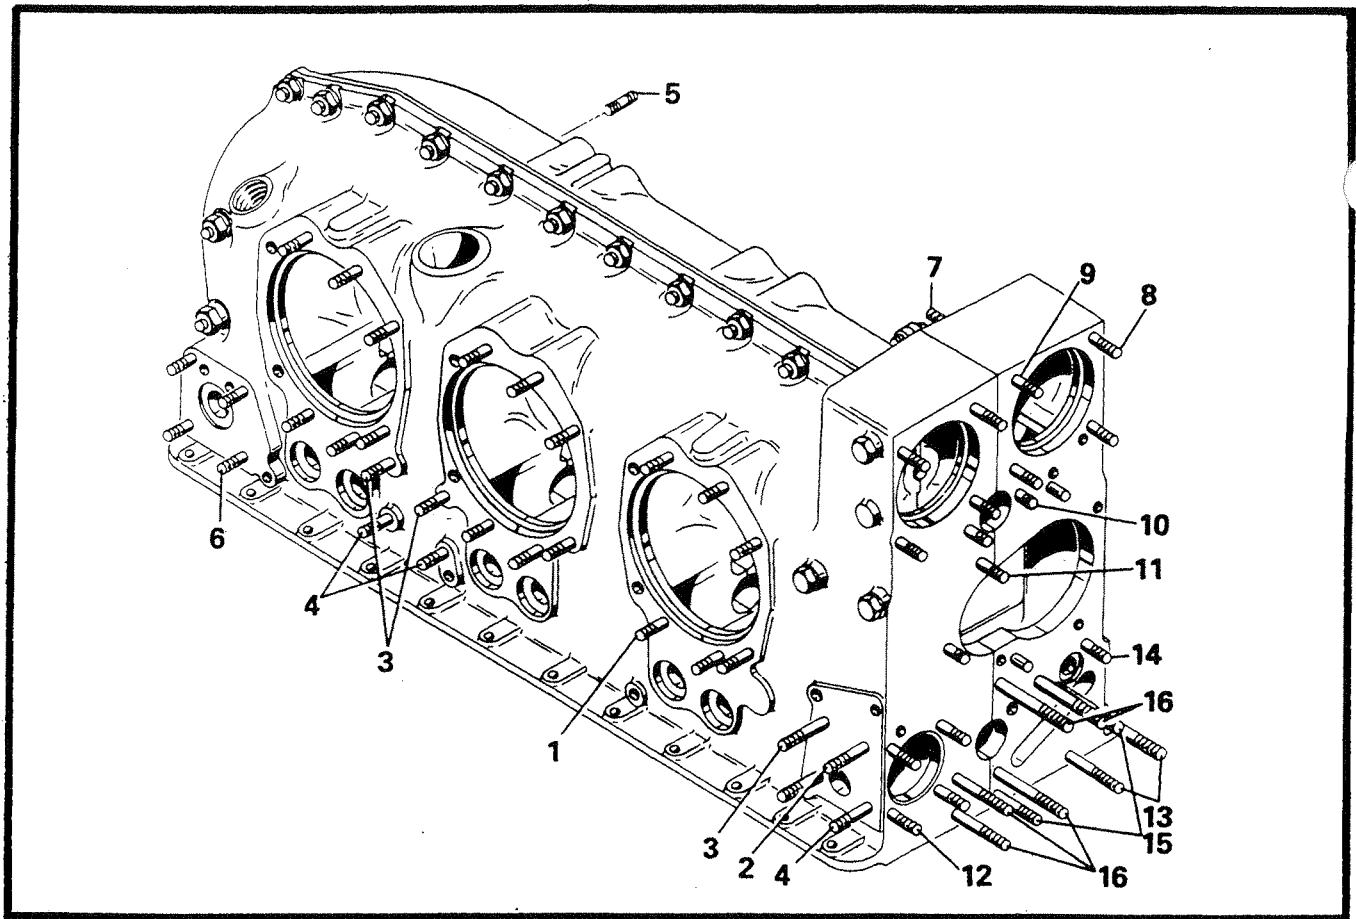

FIGURE 72-20-12A. STANDARD AND OVERSIZE STUD IDENTIFICATION.
- 72-20-12 STUD REPLACEMENT.** Remove damaged whole studs with a standard pattern stud remover or a small pipe wrench, turning slowly to avoid heating the casting. Remove broken studs, which cannot be gripped by drilling on center to the correct diameter for unscrewing them, with a splined stud extractor. Splined extractors and drills are usually sold in sets. Examine the course thread end of the damaged stud before discarding it to determine its size. Standard studs have no marking. For oversize stud identification, refer to Fig. 72-20-12A. Clean the casting tapped hole with solvent and blow dry with compressed air; then examine the thread. If it is not torn, install the next larger oversize stud. If the old stud was of the maximum oversize, or if the thread is damaged, the hole may be tapped and a helical coil insert installed for a standard-size stud. Coat the new stud's course thread with High Strength Adhesive P/N 646941 if the hole is blind or if the hole goes through to a cavity subject to leakage. It is advisable to drive the new stud with a tee handle stud driver. Turn it slowly, and compare the estimated torque values listed in the Table of Limits. Drive the stud in until it projects a distance equal to the appropriate "Setting Height" (See Figure 72-20-12B).
* NOT ILLUSTRATED IN FIGURE 72-20-12A.